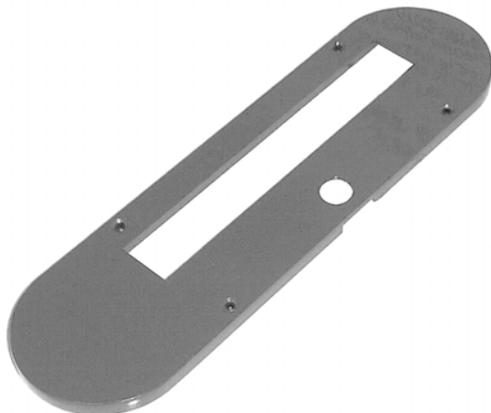

Figure 46
**Dado Cutting** – Dadoing is cutting a wide groove into a workpiece or cutting a rabbet along the edge of a workpiece. A dado insert, shown in Figure 46, is necessary for this type of operation.